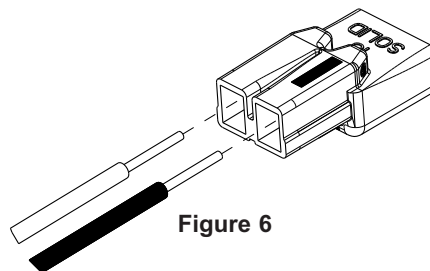

Figure 6
3. Install the female orange pluggable connector onto the 6RLS lead wires by pushing wires fully into the connector ports. Ensure the black lead wire is installed into the port with the black stripe and the white lead wire is installed into the unmarked port (see Figure 6).